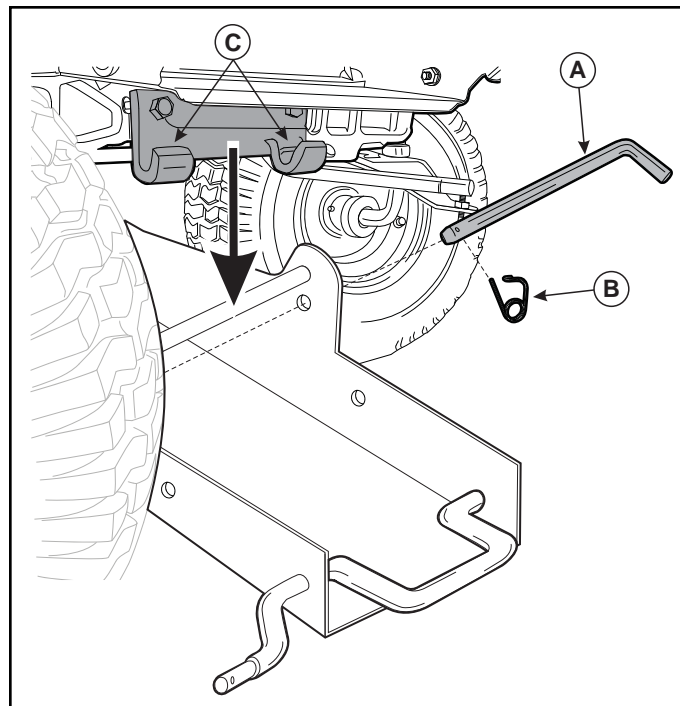

Figure 19. Remove Hitch Latch Pin
8. Remove the lower latch pin (A, Figure 19) from the front of the hitch assembly.
9. Lift the hitch assembly off of the support fingers (C).